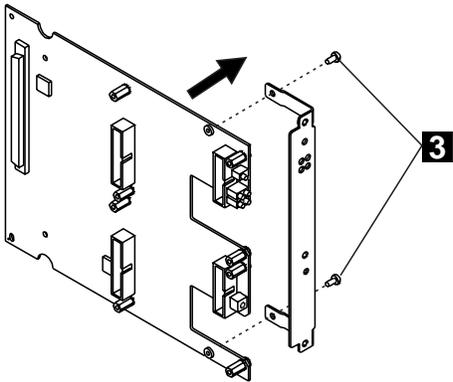

Figure 18. Removing the Dummy Faceplate Bracket
- **3** Remove the dummy faceplate bracket from the motherboard (**3** in Figure 18), retaining the screws for the new bracket. Keep the dummy bracket in a safe place for future reuse.